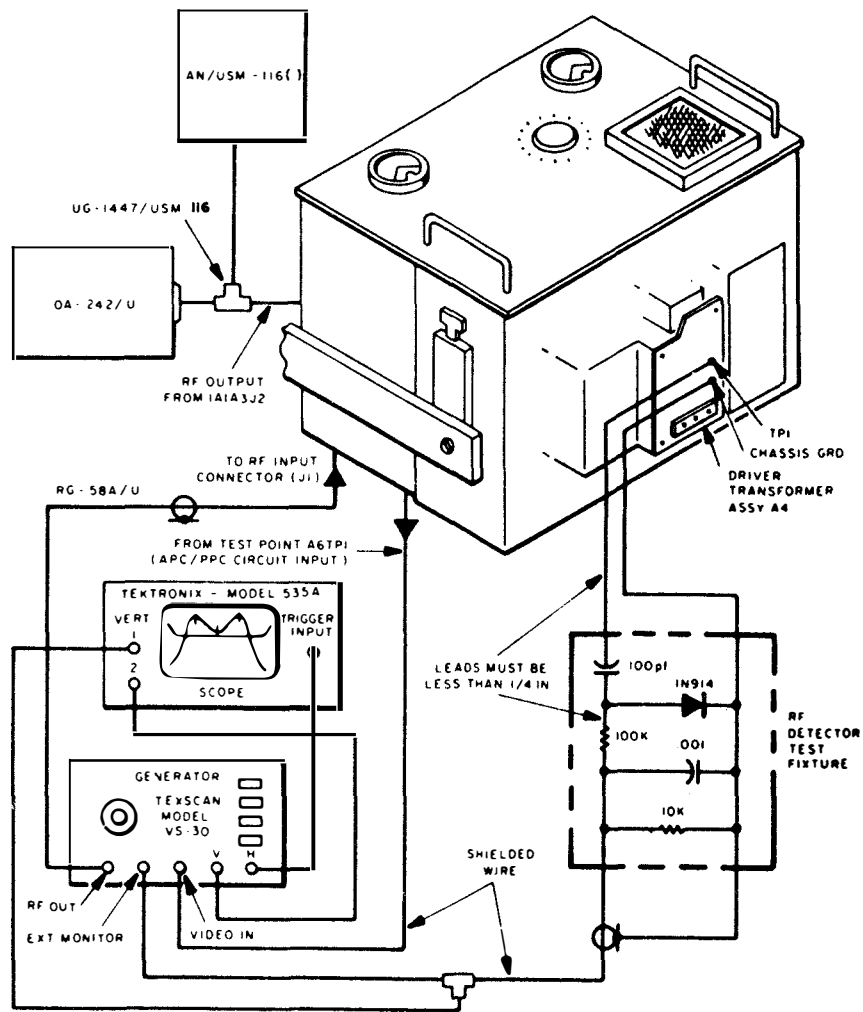

Figure 5-2. Final Transformer Alignment, Test Setup
- d. Connect test equipment as shown in figure 5-2.